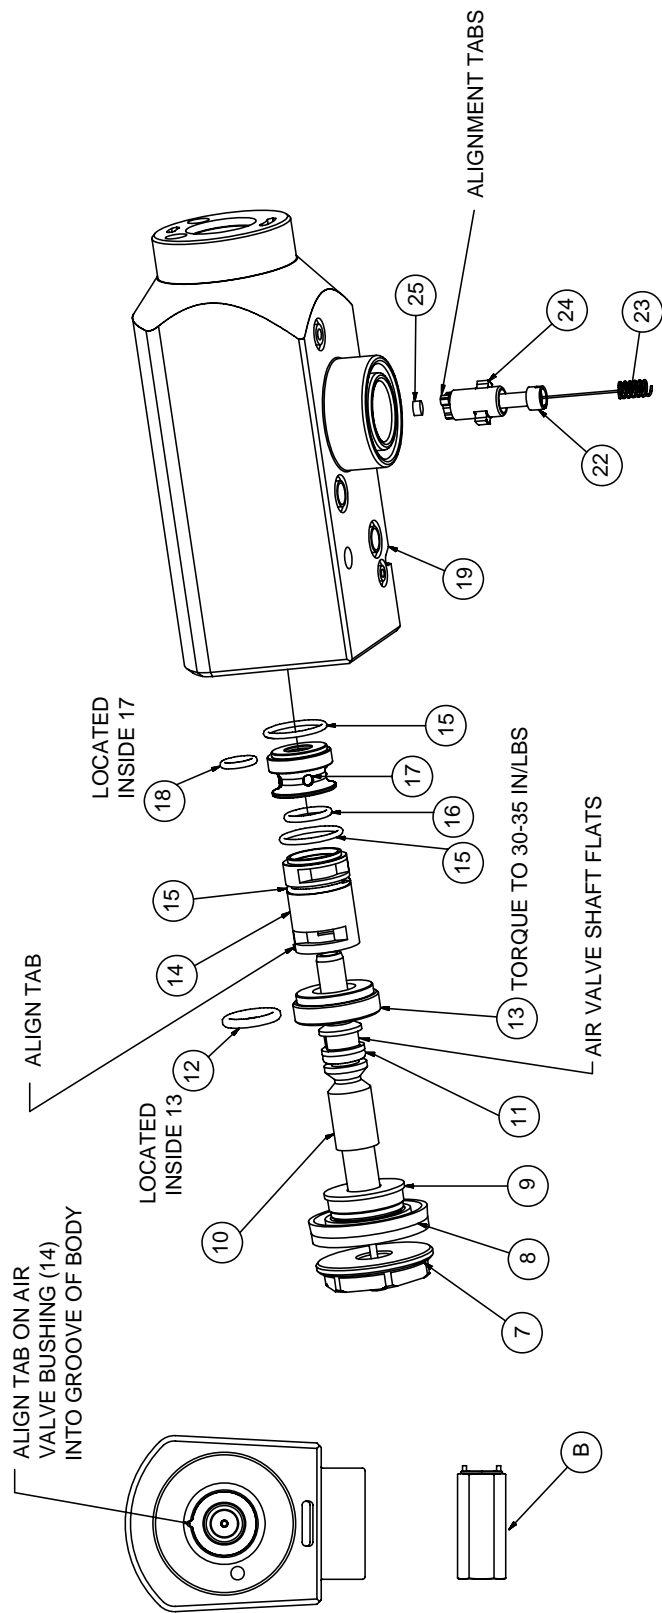

Figure 10: 79138 Evolver Applicator Head Assembly
### (See Figure 10)
6. O-rings [12] and [18] must be installed inside their mating parts (see Figure 10).
(Figure 10)**